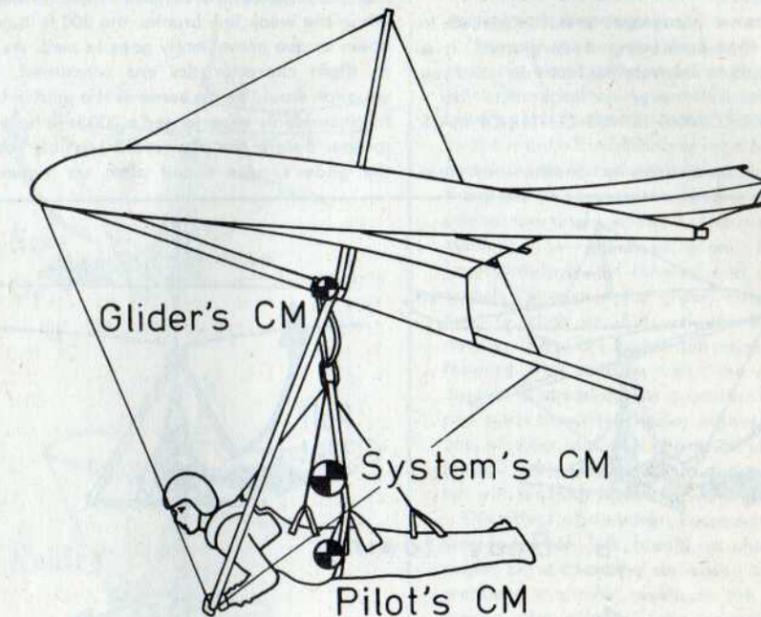

Fig. 1. Centers of Mass
You see, a hang glider is not one object but two: (1) the glider itself and (2) the pilot. So the center-of-mass of a hang glider system is not located within a solid object but rather in the empty air about one or two feet above the suspended pilot. (See Fig. 1.) There is nothing physically there except possibly the flexible hang strap of the pilot's harness. It is impossible, therefore, to attach the towline to the true CM of the pilot-glider system.